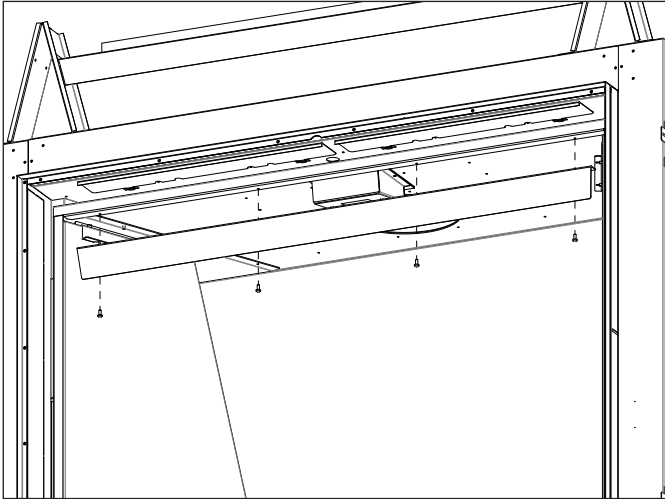

Figure 13: Light Deflector Removal
3. Remove light deflector (see Figure 13).